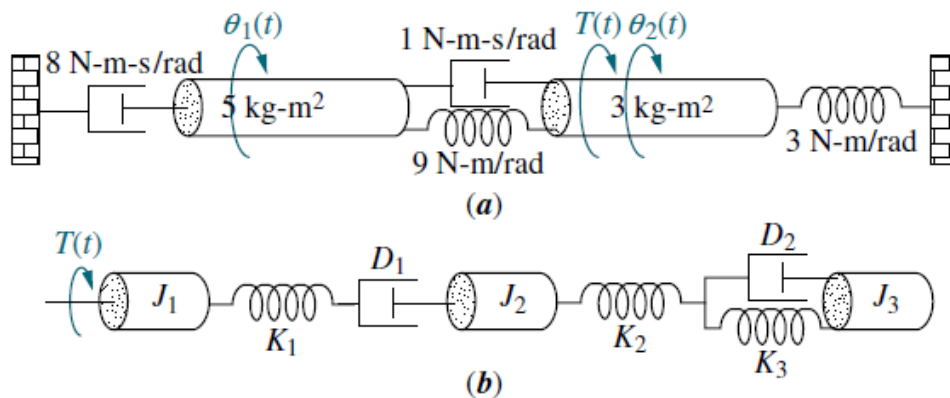

FIGURE P2.16
30. For each of the rotational mechanical systems shown in Figure P2.16, write, but do not solve, the equations of motion. [Section: 2.6]